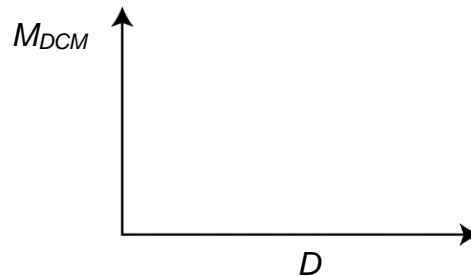

Figure 5-1 Voltage Conversion Ratio of Buck Regulator in Discontinuous Mode Operation as Function of Duty-Cycle.
- a. Run Experiment 2 of Lab6, import in the graph of Figure 5-1 the values of the voltage conversion ratio $M_{CCM} = V_{out}/V_{in}$ of buck regulator in continuous mode operation, as function of the duty-cycle D , and discuss the differences of the voltage conversion ratio between the continuous and discontinuous mode of operation: